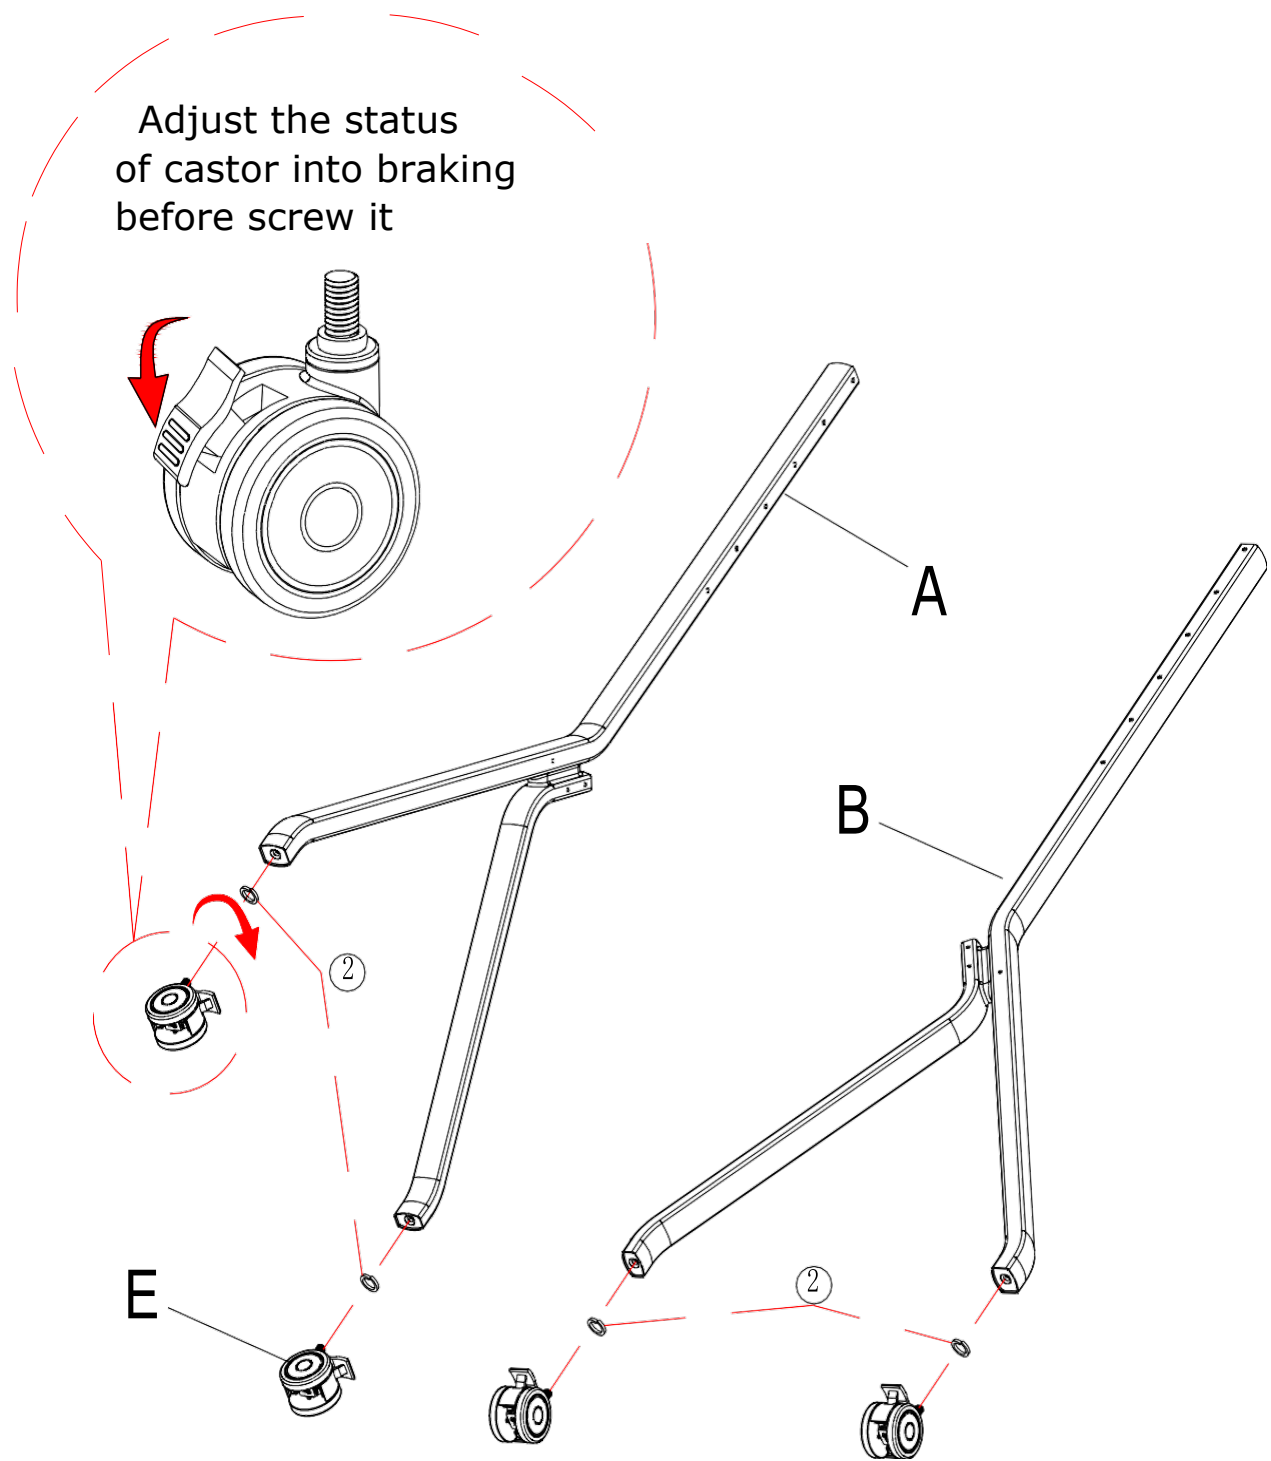

Figure 1
Step 1: Adjust the status of castor into braking and screw it into the stand foot. (Figure 1)